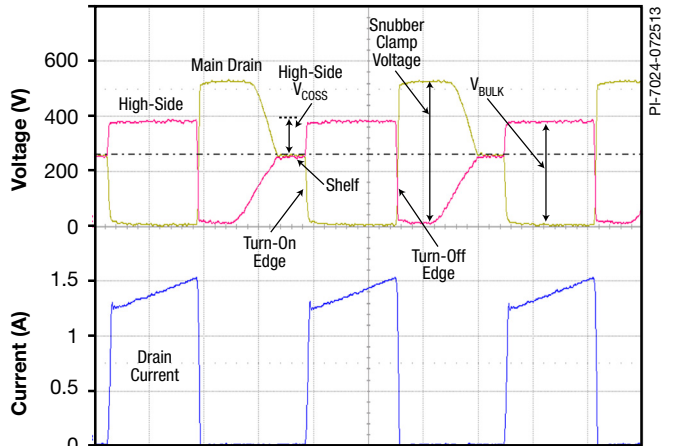

Figure 28. Typical Full Load Waveforms of the Main Drain, High-Side MOSFET Source, and Drain Current.
Repeat the measurements at full load. Be cautious of over-heating the power supply and use a strong fan. Measure the source voltage (HS) of the high-side MOSFET at turn-on for each steady-state switch cycle (Figure 28). It should be < 40% of the bulk voltage. Calculate and verify the K_p from the current waveform and verify with the spreadsheet. Also check the peak current at peak load – do not dwell at peak load for more than several seconds to prevent over-heating.